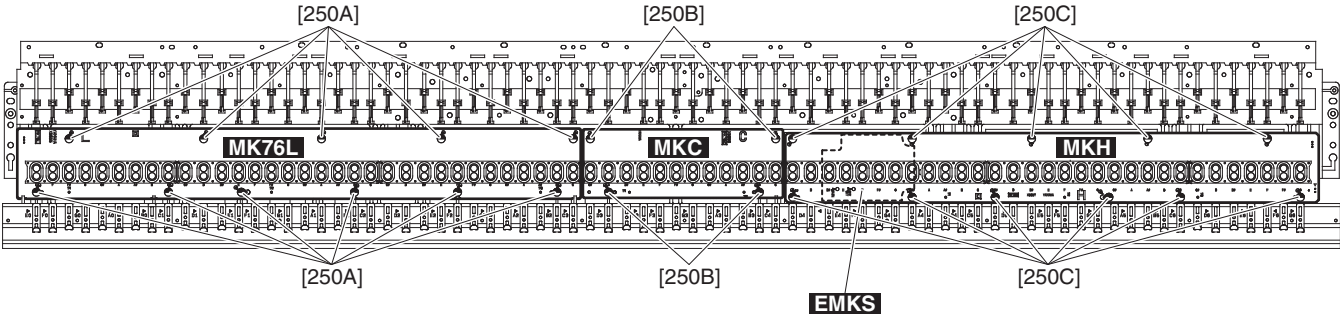

Fig. 21
- 28-3-3 Remove the eleven (11) screws marked [250A] and disconnect the connector from the underside of the keyboard unit. The MK76L circuit board can then be removed. (Fig. 21, Photo 8)
- 28-4-3 Remove the four (4) screws marked [250B] and disconnect the connector from the underside of the keyboard unit. The MKC circuit board can then be removed. (Fig. 21, Photo 8)
(Fig. 21, Photo 8)